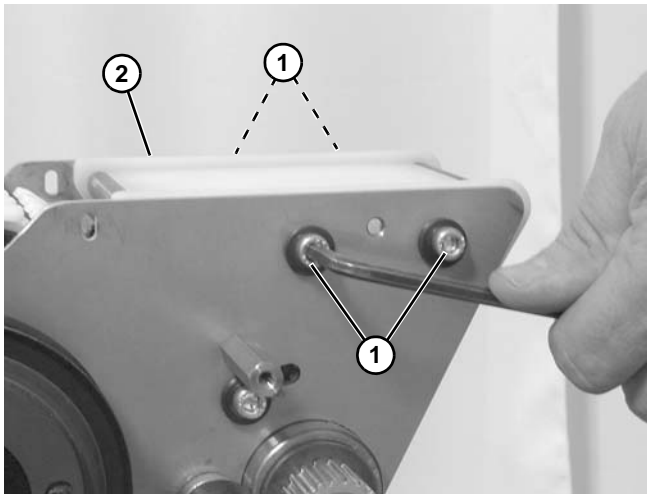

Figure 166
9. Remove four socket head screws (**Figure 166, item 1**) holding wear bar assembly (**Figure 166, item 2**) onto power transfer.